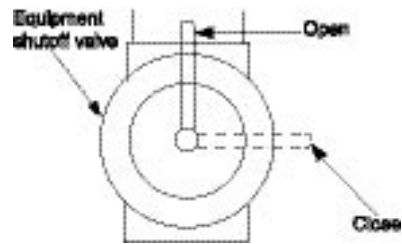

Fig.8 Equipment Shutoff Valve
1. Close equipment shutoff valve (see figure 8).
4. Check all joints from equipment shutoff valve thermostat gas valve (see figure 8/9 or 10). Apply a non-corrosive leak detection fluid to all joints. Bubbles forming show a leak.